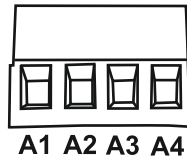

Fig. 8
- 4) Fit the four wires back to the PCB mounted terminal connector in their correct positions and fit the transformer connector (Refer Fig. 8).